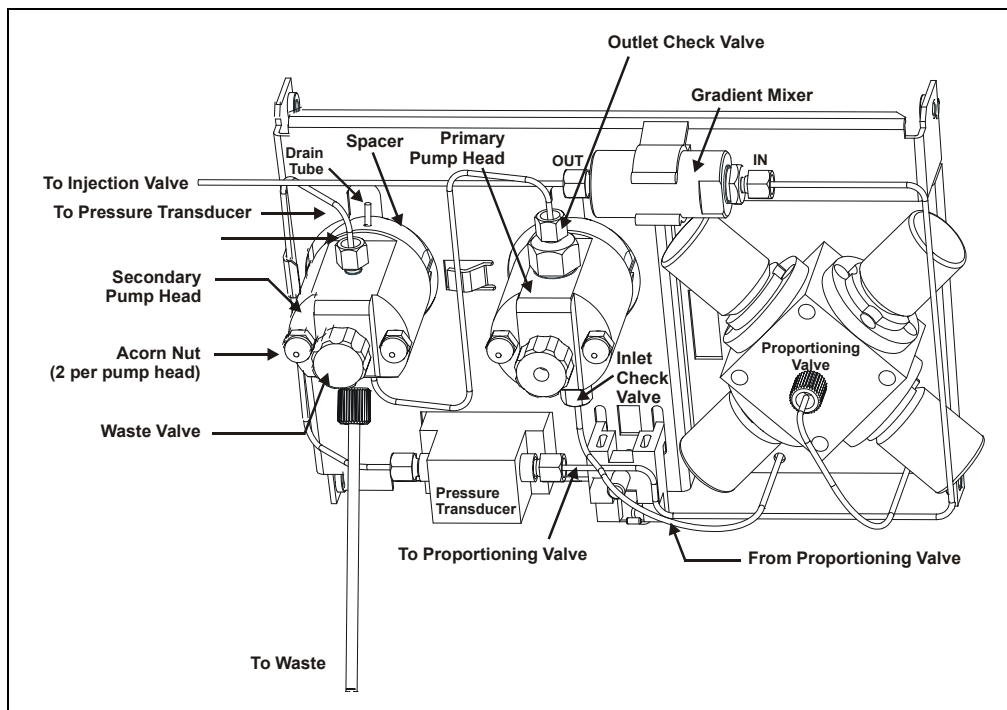

Figure 5-1. Pump Heads and Liquid Lines
2. Disconnect the tube fittings from the inlet and outlet check valve housings on the primary pump head (see Figure 5-1).
3. Remove the two acorn nuts and washers from the pump head (see Figure 5-1).
2. Disconnect the tube fittings to the pump head with the defective piston (see Figure 5-1).
2. To remove the waste valve or priming valve from the pump head (see Figure 5-1), turn the appropriate knob counterclockwise until it is loose, and then pull the knob straight out of the cavity in the pump head.